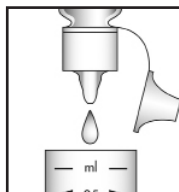

Figure 2
2. Add 10 drops of S-8000 solution (fig. 2). Stir to mix the contents of the cup.